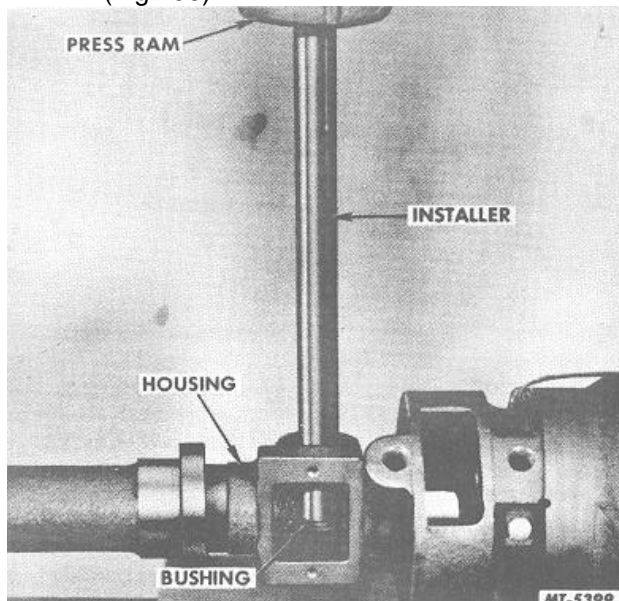

Fig. 56 Installing Tachometer Drive Shaft Bushing Using Installer SE-1722
- b. Place tachometer opening of distributor housing over a 7/8" socket on press bed and using installer (SE-1722) press bushing in until flange just seats against housing (Fig. 56).